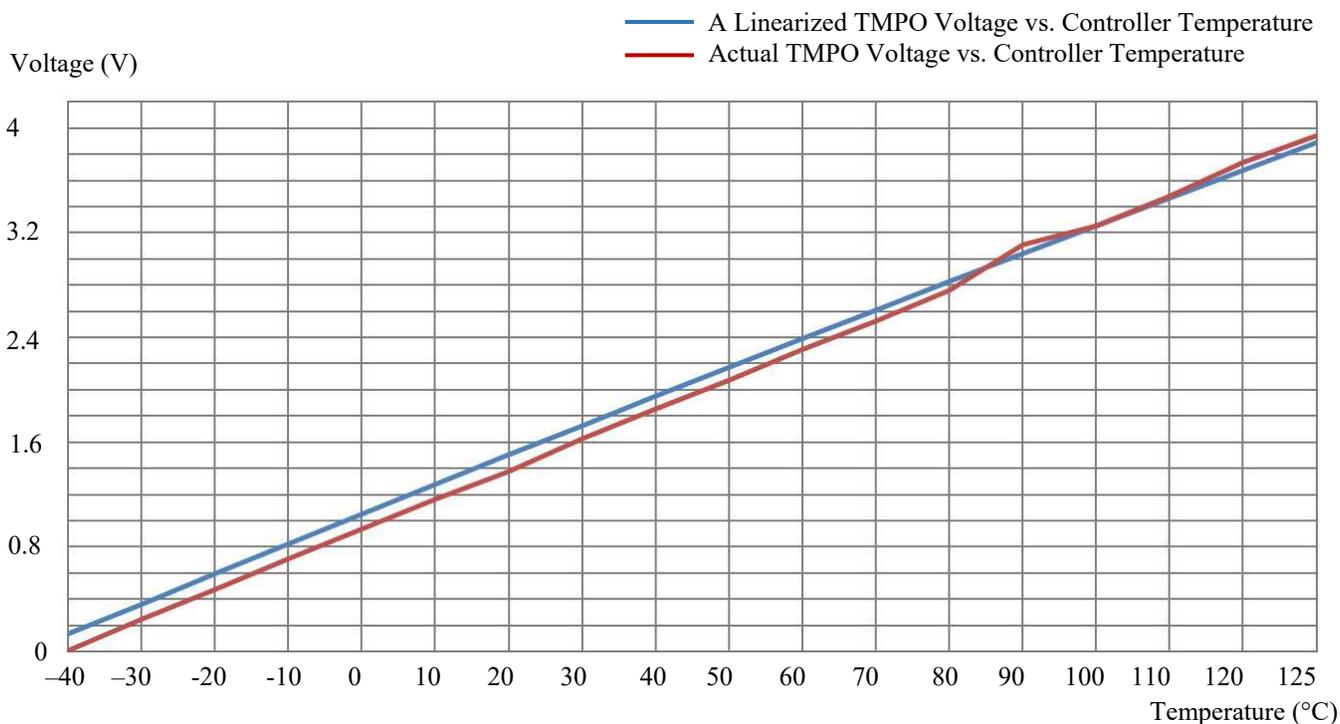

Figure 17. Controller Internal Temperature vs. TMPO Voltage
Within the most commonly used temperature range of between 0°C to 100°C, the approximated data obtained by using the linear equation (1), The curves of the 2 sets of the data are plotted in Figure 17.